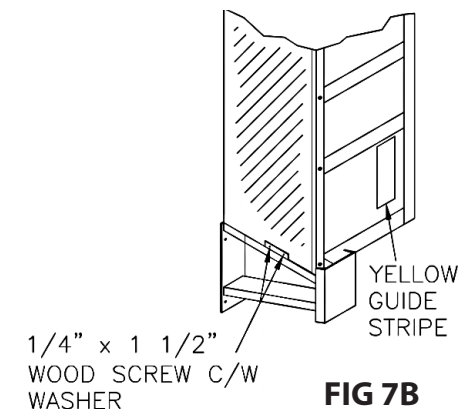

FIG 7B
- If using Steel Protective Guard (Figure 7b):